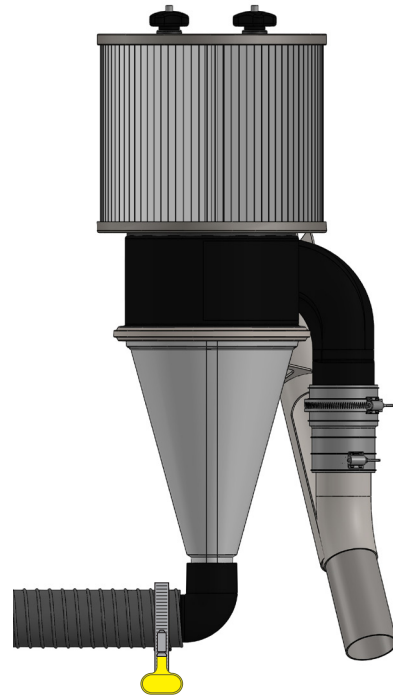

FIG. 26
Secure Hose (R) in place onto elbow of the Vortex Sander Cyclone (S3) with one Turn Key Hose Clamp (R4H) [FIG. 26].